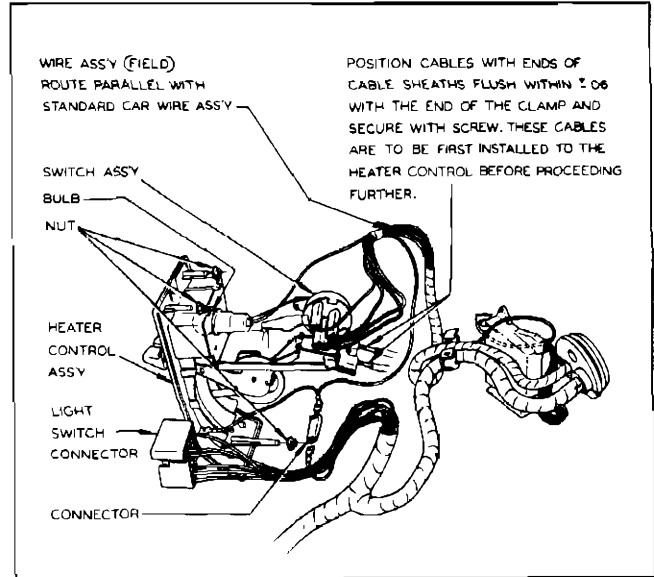

Fig. 3-17 Connections at Tempest Control Panel
6. Replace by reversing the above procedure (Fig. 3-17).